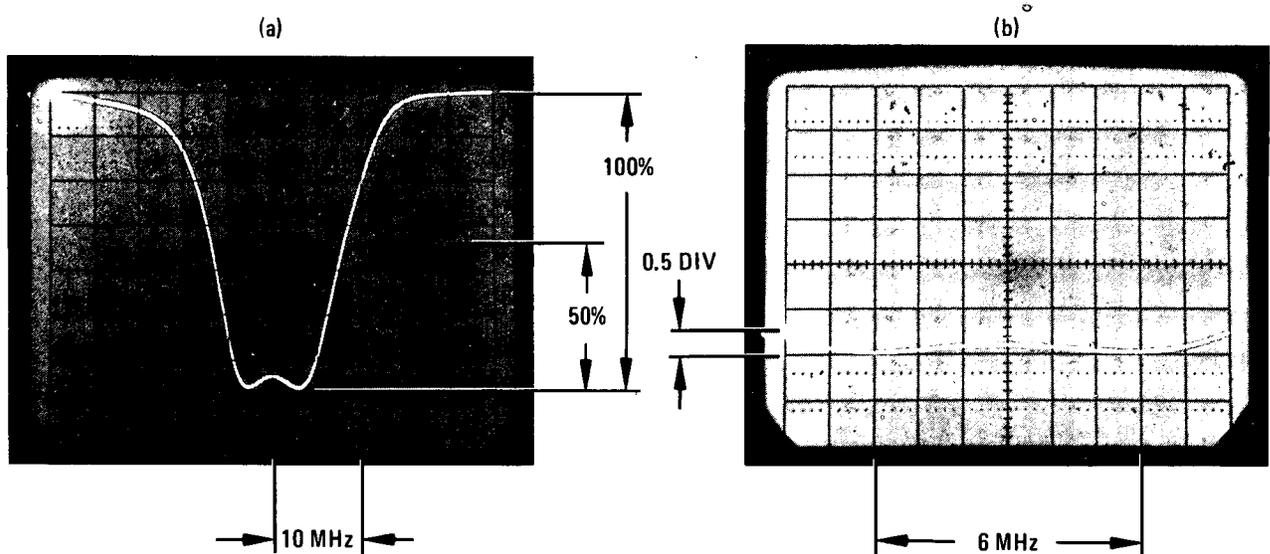

Figure 5-34. Second Converter Bandpass Displays
**This procedure uses a negative-polarity crystal detector. If a positive-polarity crystal detector is used the waveforms in Figure 5-34 will be inverted.**